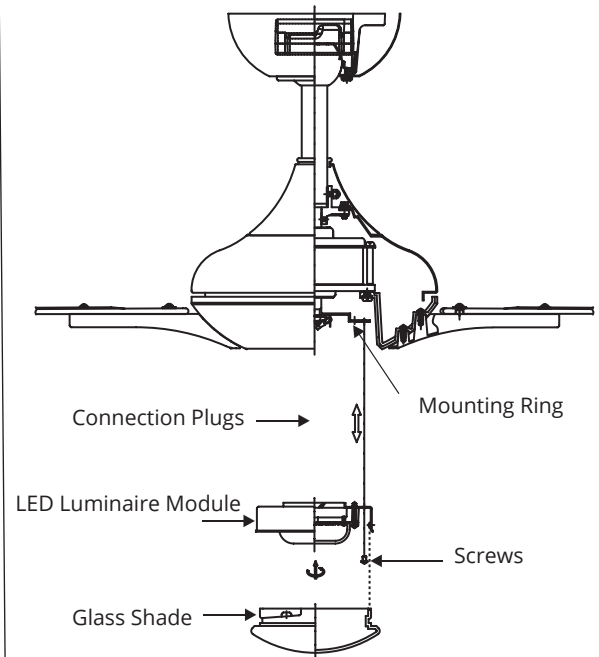

FIGURE 18
3. Tuck connections neatly into adapter plate. Place the luminaire module key holes over the 2 screws previously loosened from the adapter plate. Turn luminaire module until it locks in place at the narrow section of the key holes. Secure by tightening the 2 screws previously loosened and the one previously removed. (Fig. 18)